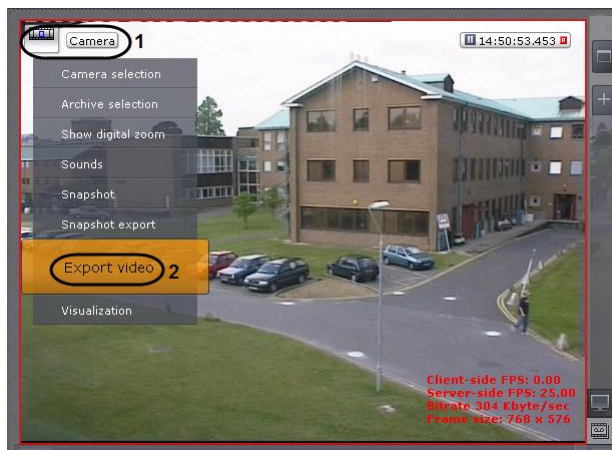

Fig. 7.5—3 Launching export
3. Select **Export video** (see Fig. 7.5—3, 2).